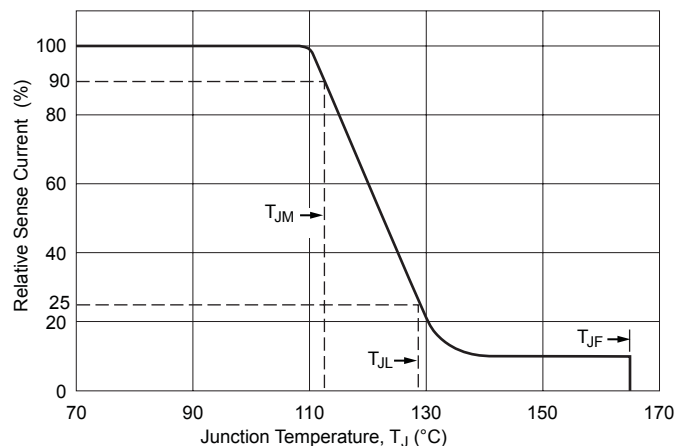

Figure 2. Temperature monitor current reduction.
**Temperature Monitor** A temperature monitor function, included in the A6264, reduces the LED current as the silicon junction temperature of the A6264 increases (see figure 2). By